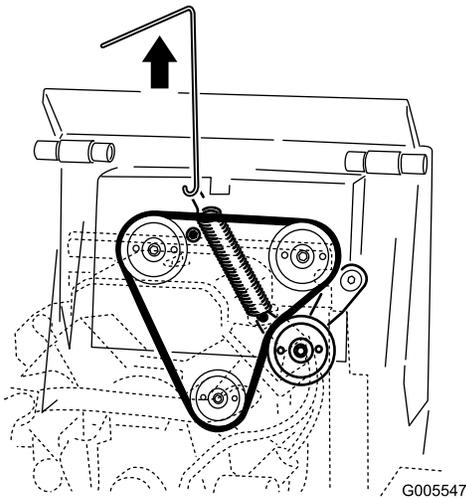

**Figure 51**
- Remove the idler pulley spring from the idler-pulley assembly (Figure 51).
- Install a new drive belt around the 3 pulleys (Figure 51).